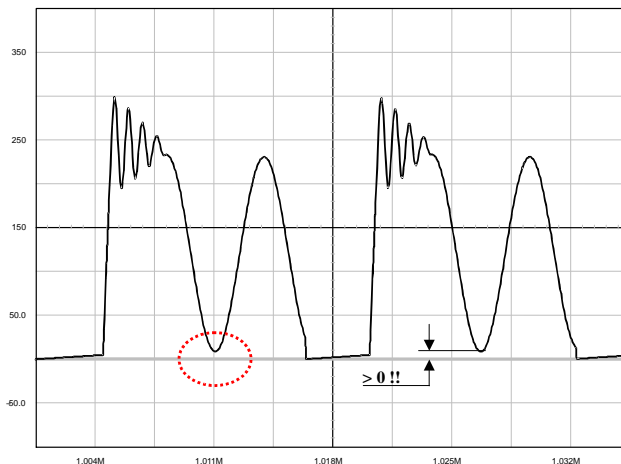

Figure 35. The Drain-Source Wave Shall Always be Positive
1. The lateral MOSFET body-diode shall never be forward biased, either during start-up (because of a large leakage inductance) or in normal operation as shown by Figure 35. This condition sets the
Figure 37a: the simple capacitor limits the voltage according to The lateral MOSFET body–diode shall never be forward biased, either during start–up (because of a large leakage inductance) or in normal operation as shown by Figure 35. This condition sets the maximum voltage that can be reflected during t_{off} . As a result, the Flyback voltage which is reflected on the drain at the switch opening cannot be larger than the input voltage. When selecting components, you thus must adopt a turn ratio which adheres to the following equation: Equation 3. This option is only valid for low power applications, e.g. below 5 W, otherwise chances exist to destroy the MOSFET. After evaluating the leakage inductance, you can compute C with Equation 4. Typical values are between 100 pF and up to 470 pF. Large capacitors increase capacitive losses...